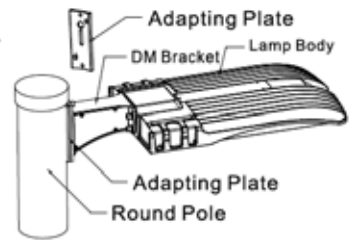

Figure 3-3
- c. Notice: Round pole should be with adaptive plate. (Figure 3-3)